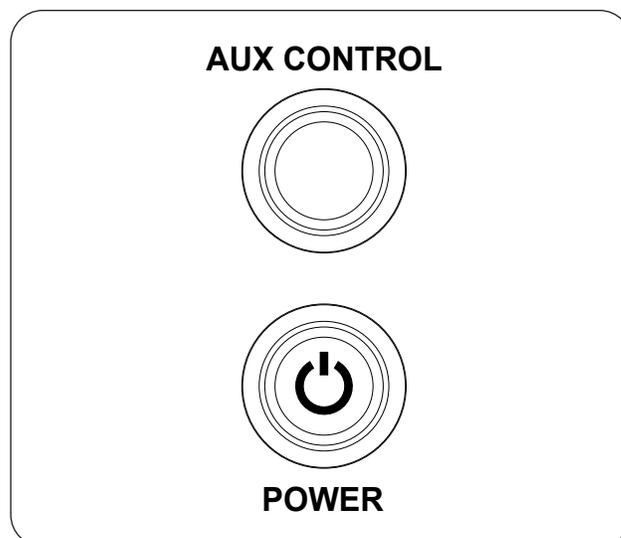

Fig. 45-1 Manual Operation:
1. Locate the control panel on the side of the unit (refer to the IDENTIFICATION PARTS LIST if needed), and identify the **AUX CONTROL** and **POWER** buttons (see Fig. 45-1).
To shut down the burner (system will remain on), push the **AUX CONTROL** button (see Fig. 45-1).
To shut down the burner and system (total shutdown), push the **POWER** button (see Fig. 45-1).